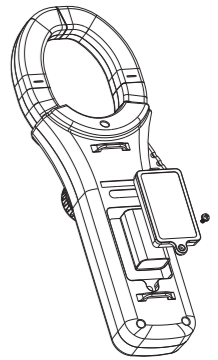

Figure 12
X. Maintenance (See Figure 12)